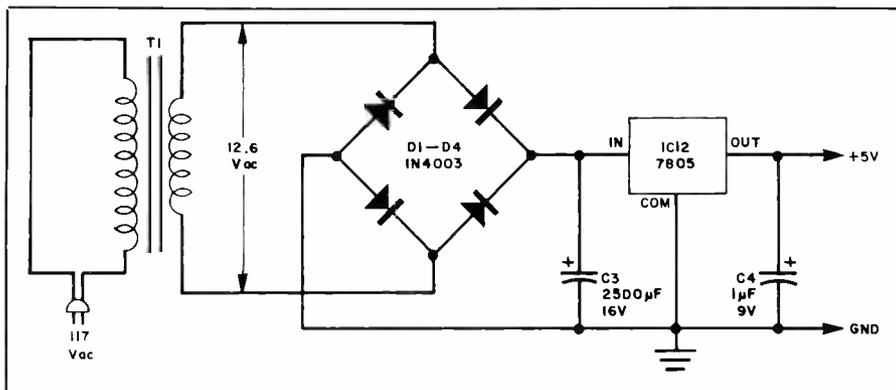

Fig. 4. Schematic diagram of a suggested 5-volt regulated dc power supply for use with project.
The key to understanding tuned-transformer ringing waveforms is recognition of the double-humped frequency responses in Fig. 3 as the equivalent of two RLC networks tuned to slightly different frequencies. Observe in Fig. 4 that when a tuned transformer with double-humped frequency response is shock-excited by a square wave, a more complex ringing waveform is produced than by a single network. The tuned transformer is ringing at two slightly different frequencies, and the ringing pattern is a beat resultant of two decaying sine waves that have slightly different frequencies.
Fig. 4. Example of a ringing waveform for a tuned i-f transformer illustrating the effect of two ringing frequencies: (A) as it would appear on the screen of an oscilloscope; (B) graph of ringing frequencies F1 and F2.